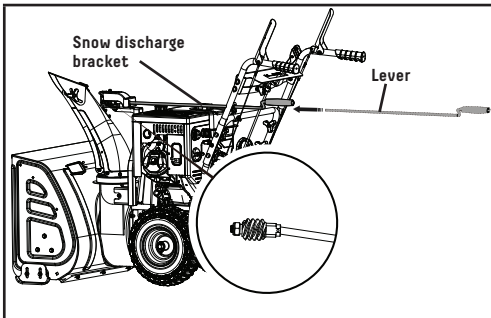

Figure 8A
2. Insert the lever through the discharge chute bracket on the lower handle, and then into the hole of the gear (Fig. 8A).